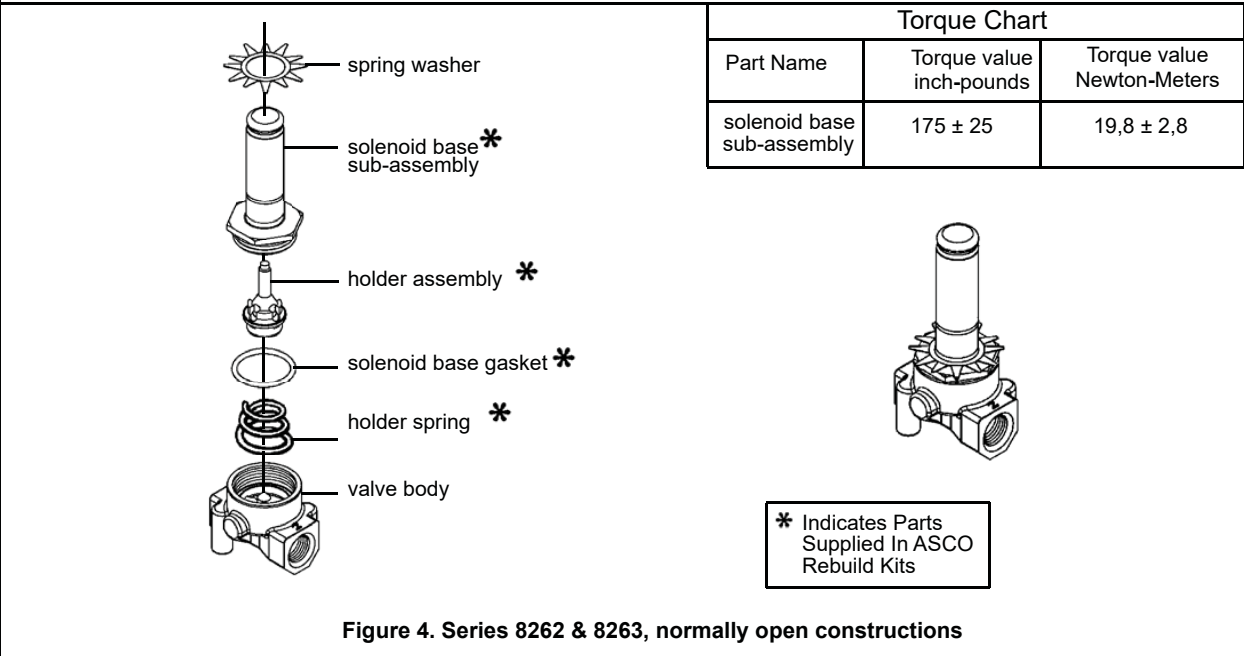

Figure 4. Series 8262 & 8263, normally open constructions
- For normally open construction (Figure 4) remove spring, and disc holder assembly.
- For normally open construction (Figure 4), install disc holder assembly and disc holder spring.
- **Open-Frame Construction:** The green solenoid may be supplied with 1/4” spade, screw or DIN terminals. (Refer to Figure 4)